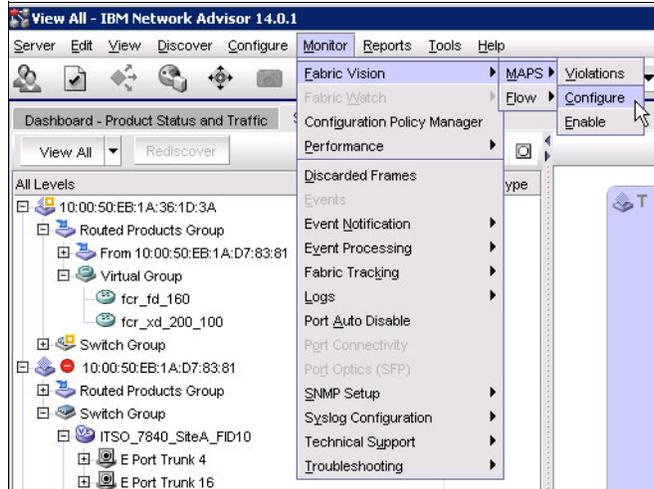

Figure 7-3 Menu of MAPS configuration
1. Right-click a device in the Product List or Connectivity Map and select **Fabric Vision** → **MAPS** → **Configure** (Figure 7-3).